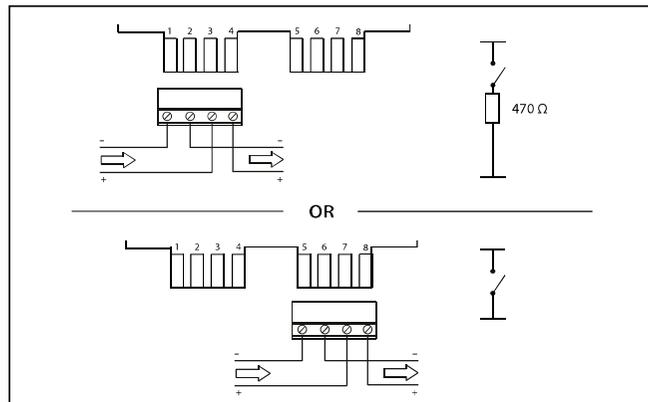

Fig. 2 Terminal block connections
- Remove terminal block from the PCB. Run the cables into the backbox and connect them to the terminal block as shown in **Fig. 2**. Ensure that functional earth/screen continuity is maintained. Screens should be connected to the terminal in the backbox.